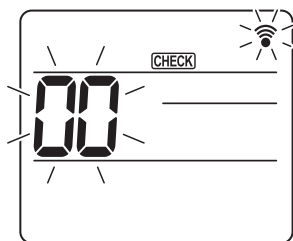
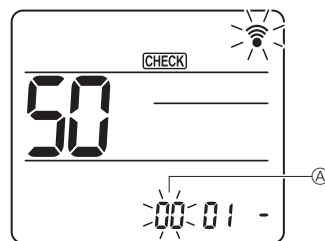
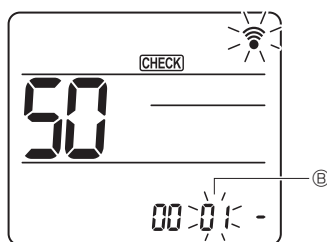
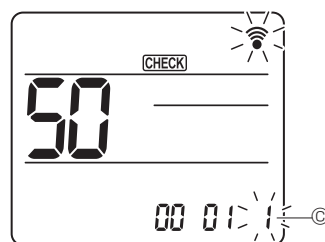

Fig. 7-16
Fig. 7-17
Fig. 7-18
Fig. 7-19
7.4.2. By wireless remote controller (Fig. 7-16, Fig. 7-17, Fig. 7-18, Fig. 7-19)
- ① Going to the function select mode
(Start this operation from the status of remote controller display turned off.) [CHECK] is lighted and "00" blinks. (Fig. 7-16)
- ② Setting the unit number
- Press the [DOWN] button to set unit number ①. (Fig. 7-17)
- ③ Select a mode
- Press the [DOWN] button to set Mode number ②. (Fig. 7-18)
- ④ Selecting the setting number
- Use the [DOWN] button to change the Setting number ③. (Fig. 7-19)
- ⑤ To select multiple functions continuously
- Repeat select ③ and ④ to change multiple function settings continuously.
- ⑥ Complete function selection